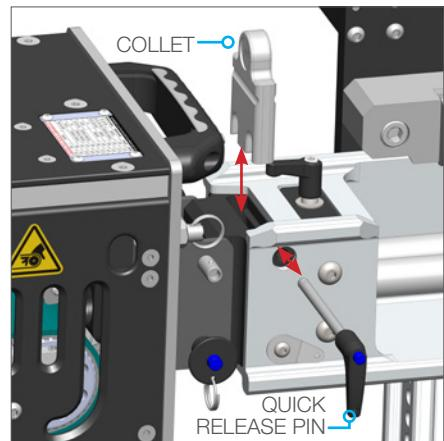

FIGURE 1
1. Remove Quick Release Pin and pull out existing Collet. Select the appropriate Collet size for the diameter of the hoses. (See the "Recommended Collets For Common Hose Sizes" plaque on the top plate of the AUTOBOX® (ABX-2L-B-V2) Hose Tractor.) (**Figure 1**)